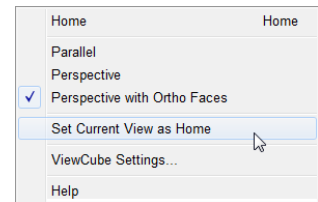

FIGURE 22-4:
- 10. In the large 3D viewport, right-click the ViewCube to display its shortcut menu and then choose Perspective with Ortho Faces (see Figure 22-4).**